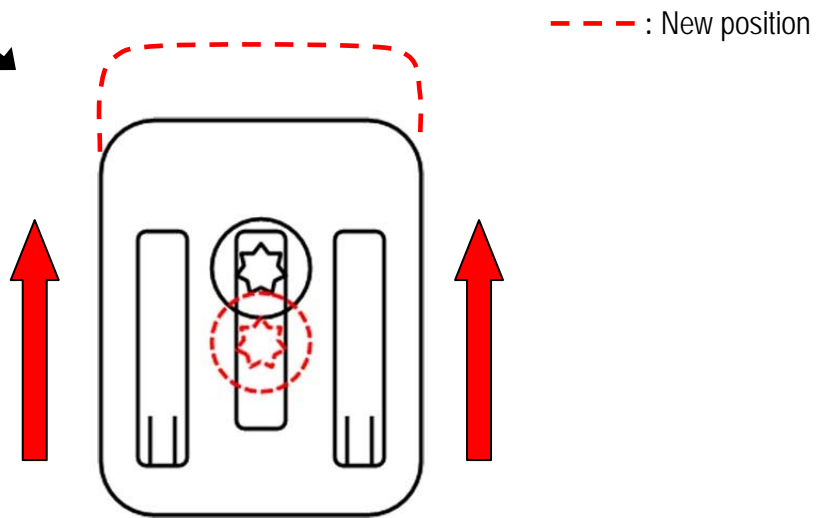

Figure 36
38. Next, adjust the side wedges on each side of the vehicle's trunk as shown in Figure 36.